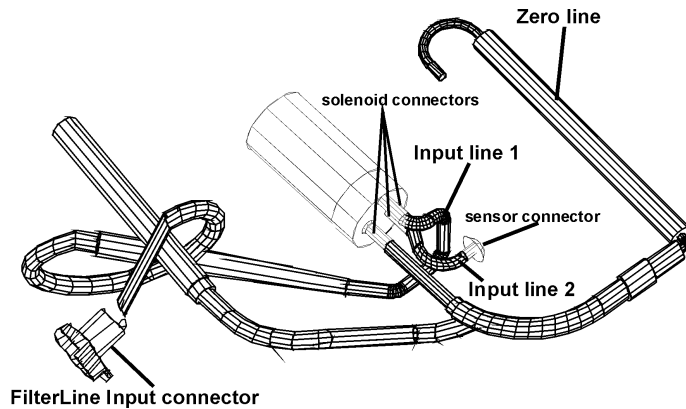

Figure 7-9: Lines to Solenoid (Zero line, Input line 1, Input line 2)
7.5.2 Replacing the lines to the solenoid (Refer to Figure 7-9)
4. Lead the Input line 1 under the FRS cables (connected to the FilterLine input connector, not viewed in Figure 7-9) and connect to the FilterLine input tubing connector.